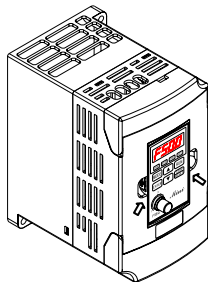

Fig. 3-4
STEP 1. Hand on the notch of the two sides(right and left) of the keypad and pull it up by inward, remove the keypad.(as shown in the figure 3-4).